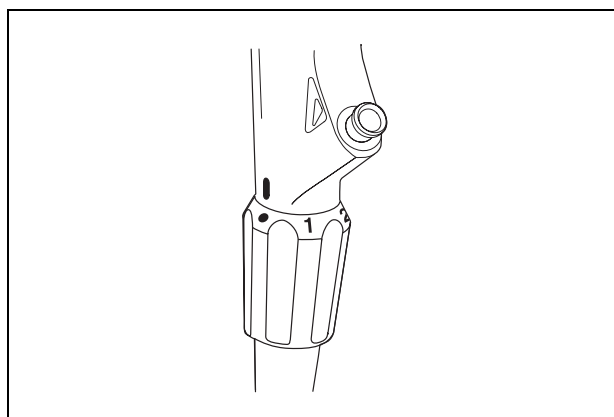

Figure 3.4
1. Confirm that the marks (“●”, “1”, “2”, “3”) on the flexibility adjustment ring and the “|” mark at the bottom of the grip section are clearly visible (see Figure 3.4).